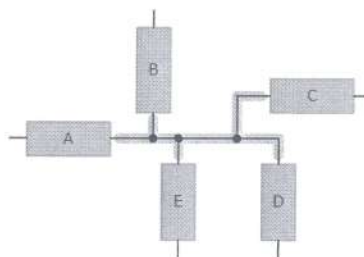

Fig 1.8 Node
- Node - A junction where two *or more* elements connect is called a *node*. Generally marked as a black dot. (Fig 1.8)